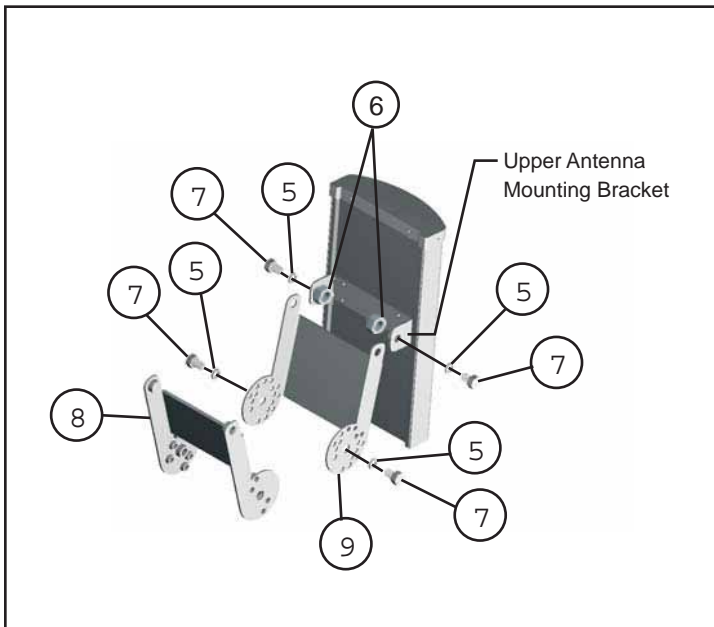

Figure 3. Fastening Downtilt Bracket Assembly to Upper Antenna Mounting Bracket.
3. Fasten downtilt brackets (Items 8 and 9) to upper antenna mounting bracket using 1/2 inch hardware (Figure 3).